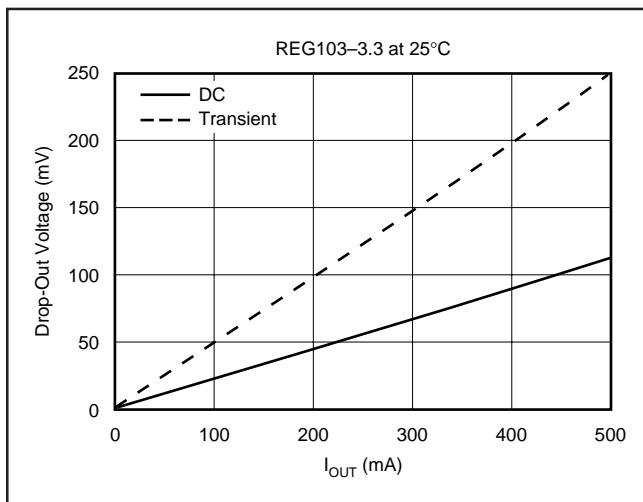

FIGURE 10. Transient and DC Dropout.
The REG103 uses an N-channel DMOS as the “pass” element. When the input voltage is within a few hundred millivolts of the output voltage, the DMOS device behaves like a resistor. Therefore, for low values of  $V_{IN}$  to  $V_{OUT}$ , the regulator’s input-to-output resistance is the  $R_{DS(on)}$  of the DMOS pass element (typically 230mΩ). For static (DC) loads, the REG103 will typically maintain regulation down to  $V_{IN}$  to  $V_{OUT}$  voltage drop of 115mV at full-rated output current. In Figure 10, the bottom line (DC dropout) shows the minimum  $V_{IN}$  to  $V_{OUT}$  voltage drop required to prevent drop-out under DC load conditions.
For large step changes in load current, the REG103 requires a larger voltage drop across it to avoid degraded transient response. The boundary of this “transient drop-out” region is shown as the top line in Figure 10. Values of  $V_{IN}$  to  $V_{OUT}$  voltage drop above this line insure normal transient response.